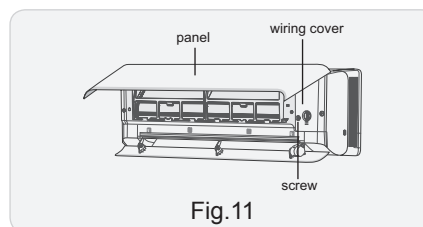

Fig.11
(1) Open the panel, remove the screw on the wiring cover and then take down the cover. (As show in Fig.11)